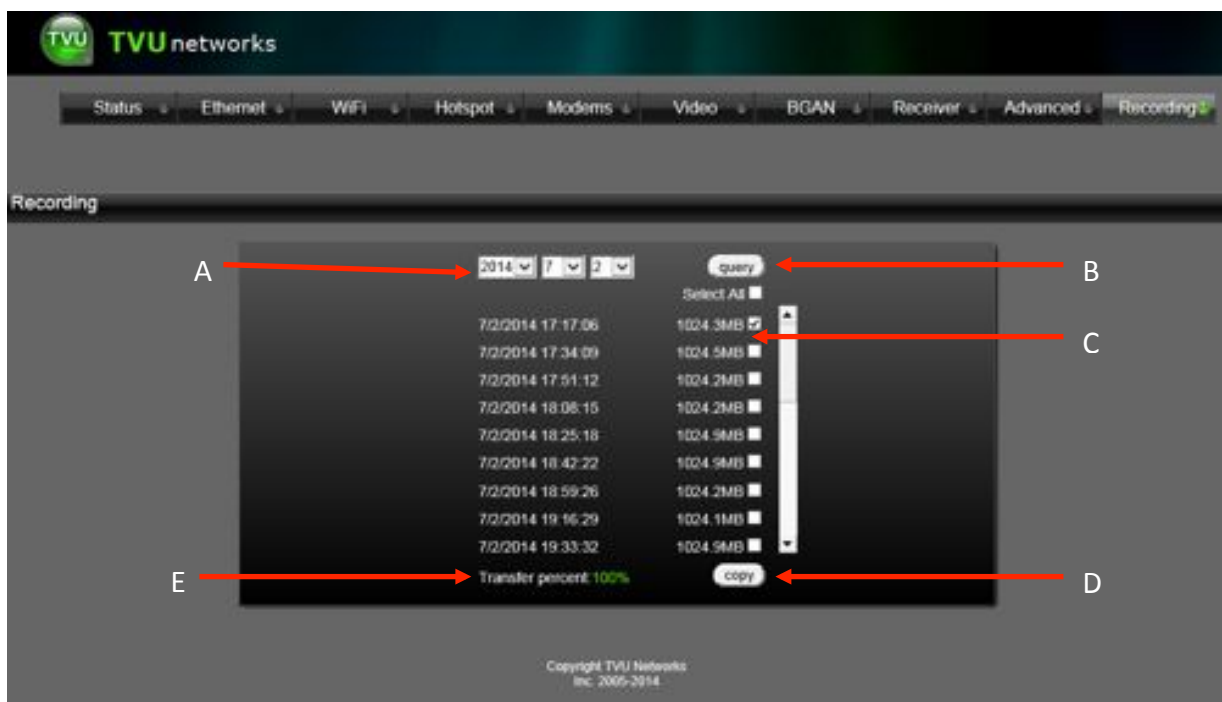

Figure 12
Connect your smart device or laptop to the TVUPack Mini Hotspot (See page 18 for Connecting to Hotspot instructions). Select the “Recording” tab (Figure 12). Input the date (A) when the content was recorded and click “query” (B). The recorded content from the specific date will appear. Select the clip you would like to download to the USB by checking the check box to the right of the clip file size (C). Once you have selected the clips you would like to export, click “copy” (D). The file will begin to download to the USB stick and a status bar will appear that will depict the transfer percentage (E).